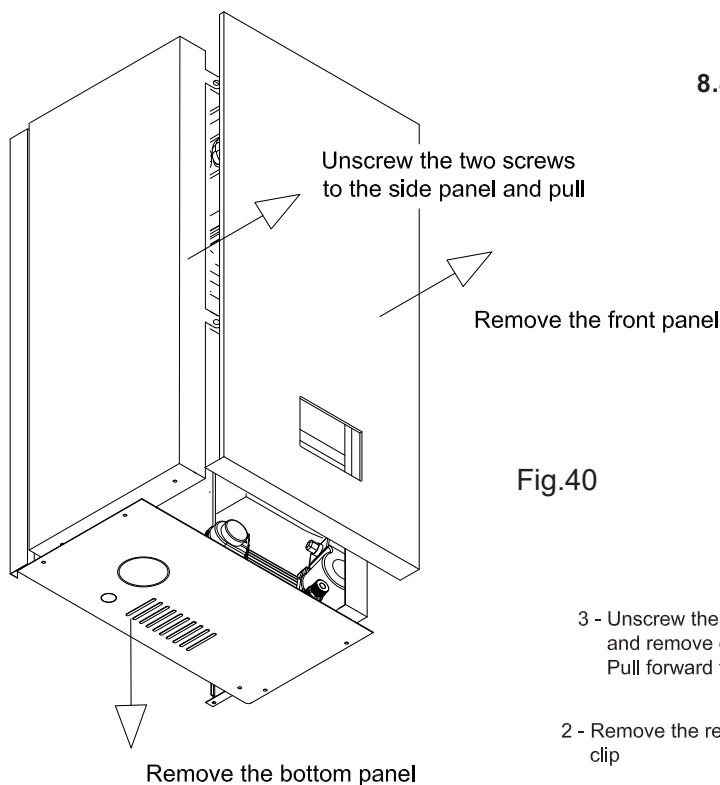
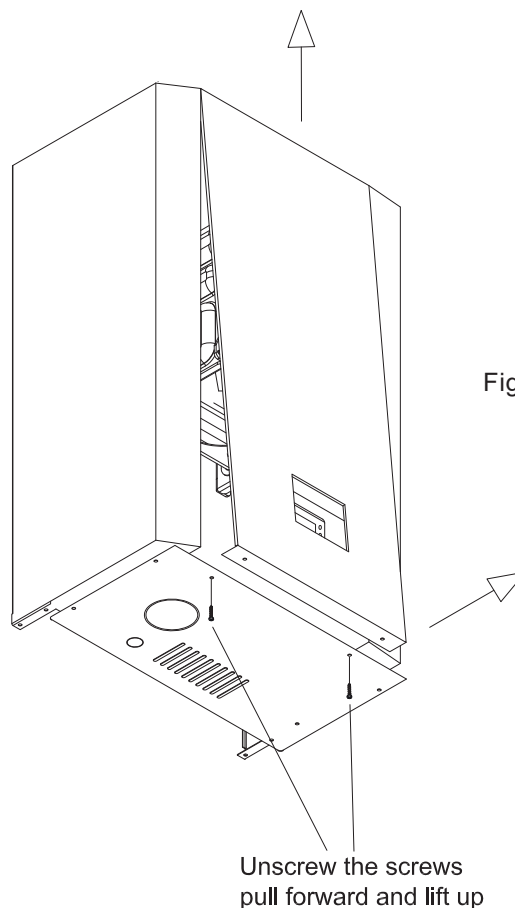

Fig.40
Fig. 39
8.3 TO REMOVE LEFT AND RIGHT PANELS (Fig. 40)
Remove the front panel (fig. 39).
Remove the front panel (fig. 39), bottom and left side panels (fig. 40).